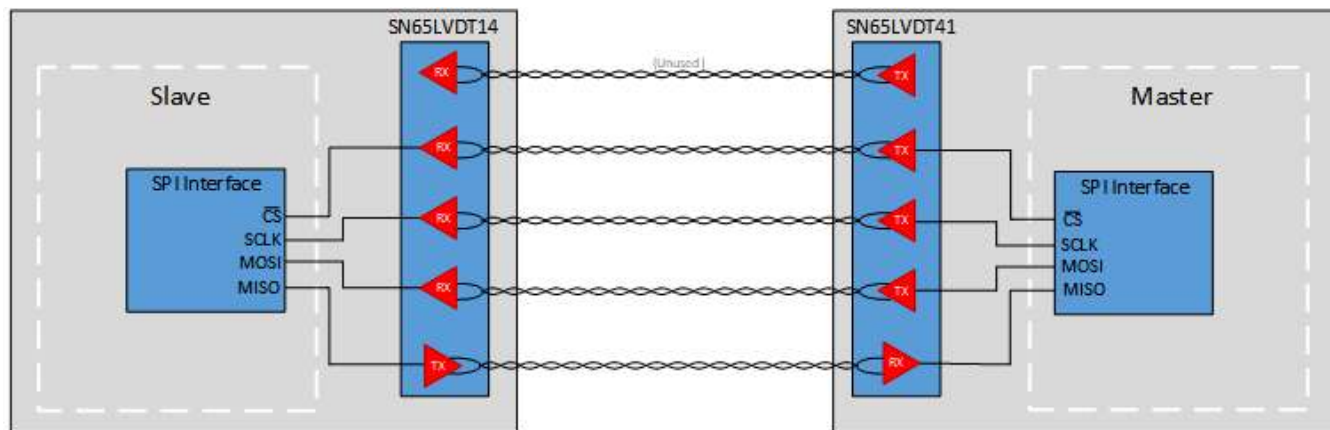

Figure 18. Typical SPI Application With LVDS
SPI operates in a master-slave architecture, with four unidirectional signal lines. The master supplies data named Master-Out-Slave-In (MOSI), a clock (SCLK), and an optional Chip Select (CS) signal to control the operation of the system with multiple slave devices. The MOSI, SCLK, and CS signals are unidirectional from the master device to slave devices. The serial data from slave to master device is a unidirectional signal named Master-In-Slave-Out (MISO). The flow of data can be seen in Figure 18.